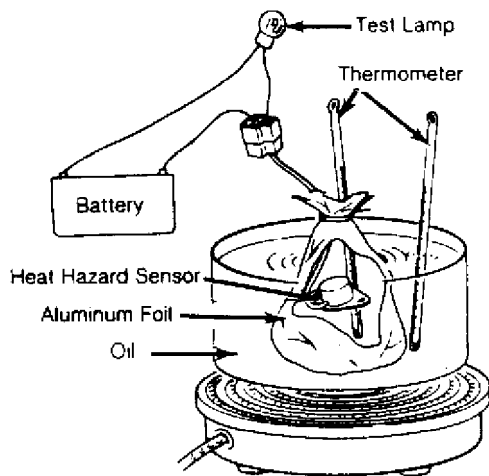

Fig. 6: Testing Heat Hazard Sensor
3) Place sensor and thermometer (wrapped in aluminum foil) in container filled with oil. Place a second thermometer in container of oil. See Fig. 6.